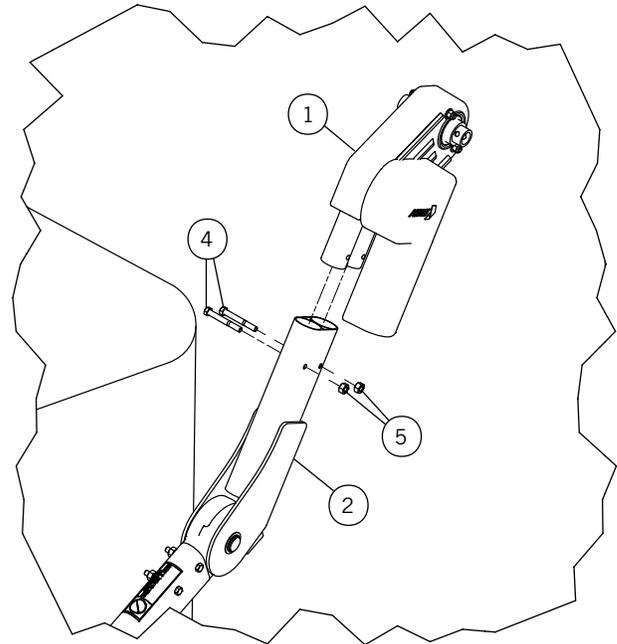

Figure 32-1
- 1) **Figure 32-1.** Attach motor to front arm with 3/8" bolts and lock nuts. Make sure to align marker stickers on motor and arm before securing.